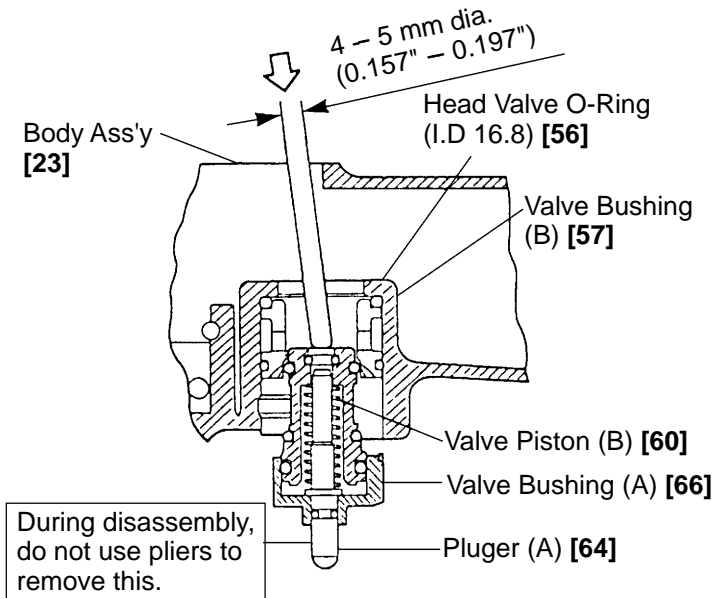

Fig. 7
- (1) Remove the Exhaust Cover [5] as shown in item 2.2.(1).
- (2) Insert a 4 – 5 mm (0.15" – 0.197") dia. rod from the top of the Body Ass'y [23] as indicated in Fig. 7 and press the top surface of Valve Piston (B) [60]. The parts constituting the control valve can now be removed except for Valve Bushing (B) [57] and the Head Valve O-Ring (I.D 16.8) [56].